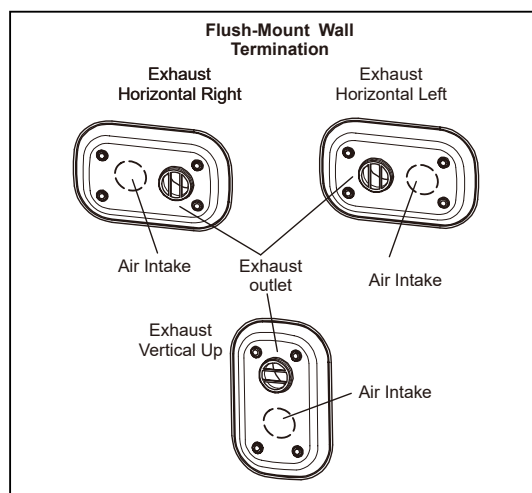

Fig. 7-16
2. Exhaust vent pipe can be located horizontally left, right, or vertically up from the air intake pipe. See Fig. 7-16.